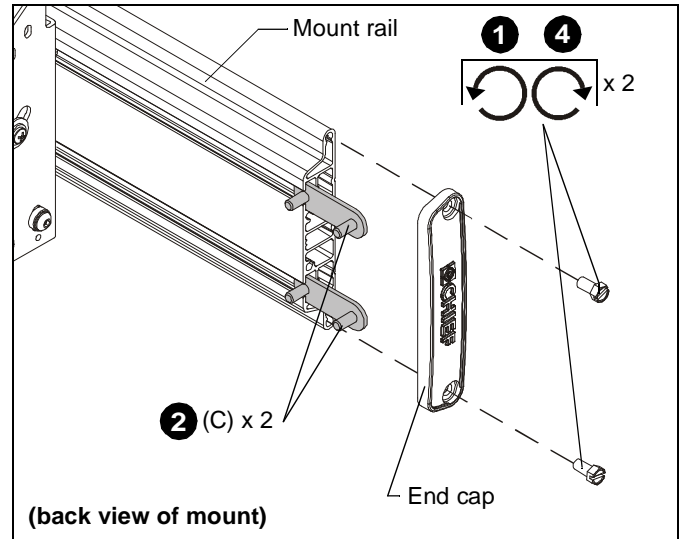

Figure 2
1. Align center of the speaker bracket (B) with center of speaker (not included). (See Figure 2)
NOTE: The diamond-shape hole in the bracket corresponds to the center of the speaker bracket. (See Figure 2)
2. Attach speaker brackets (B) to speakers (not included) using two 10-24 x 1/2" (F) or 1/4-20 x 1/2" (G) Phillips pan head screws (F) with #10 (K) or 1/4" (J) flat washers for each bracket. (See Figure 2)
1. Remove two fasteners and end caps from each end of mount rail. (See Figure 2)
2. Insert two T-slot studs (C) into each end of mount rail. (See Figure 2)
4. Tighten two fasteners removed in Step 1 into each end cap. (See Figure 2)